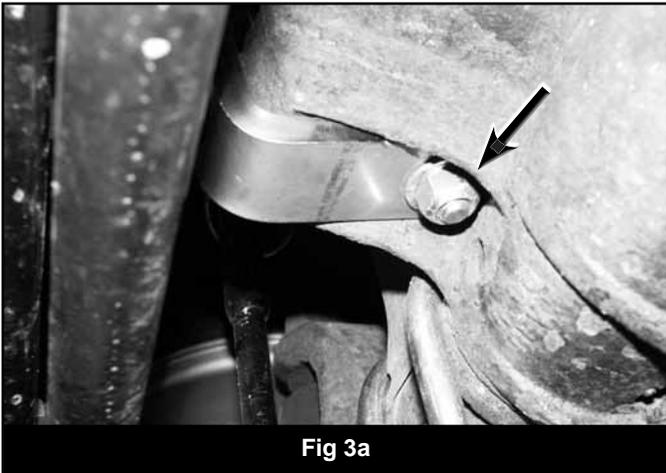

Fig 3a
24. Mark the location of the slotted hole using the bracket as a template. (Fig. 3A)